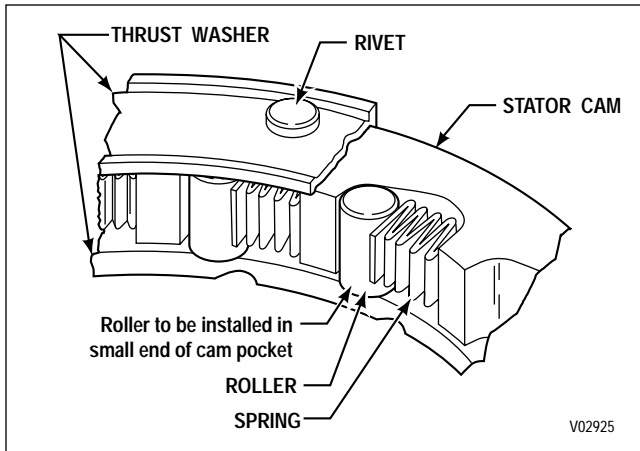

Figure 6-12. Spring and Roller in Stator Cam (AT 543)
(6) Install ten freewheel rollers and ten springs. The open end of the spring touching the roller must be toward the center of the stator cam assembly (Figure 6-12). The rollers are installed in the shallow ends of the cam pockets.